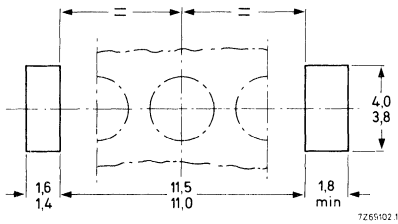

Fig. 4 Heatsink requirements.
2. Push the short end of the clip into the narrow slot in the heatsink with the clip at an angle of  $10^\circ$  to  $30^\circ$  to the vertical (see Figs 4 and 5).